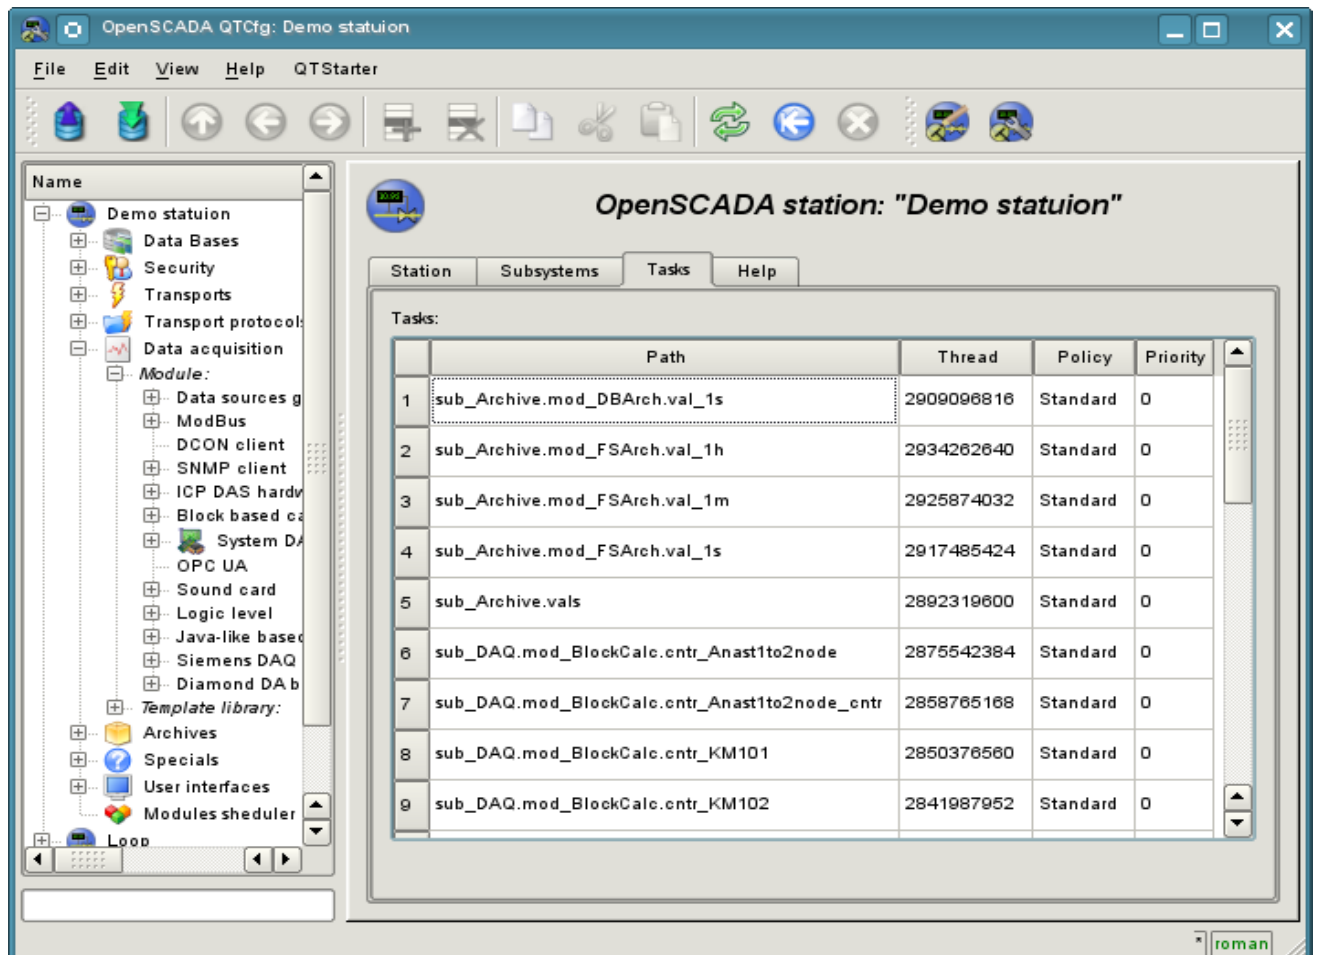

Fig 4c. "Tasks" tab of the main page of the configuration of the station.
- Tab "Tasks" contains the table with opened tasks by OpenSCADA components (Fig.4c). From table you can get several information about the tasks.